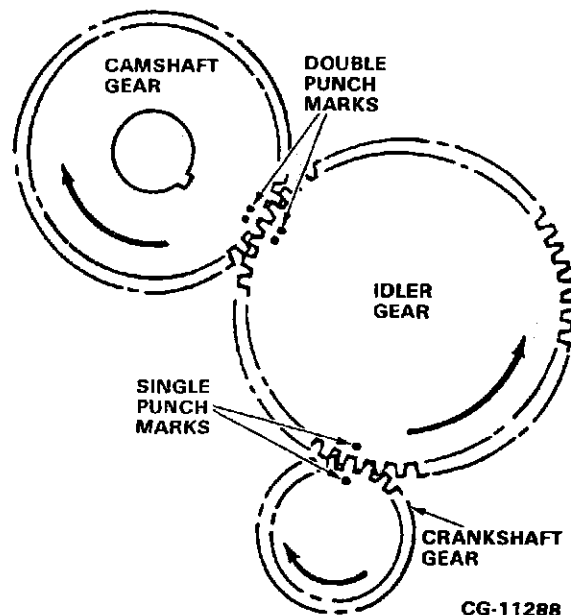

Figure 8.6. Properly Timed Gear Train
**NOTE:** One (1) tooth "out of time" on gear train equals approximately 11 degrees movement of vibration damper. Figure 8.6. shows a properly timed gear train.